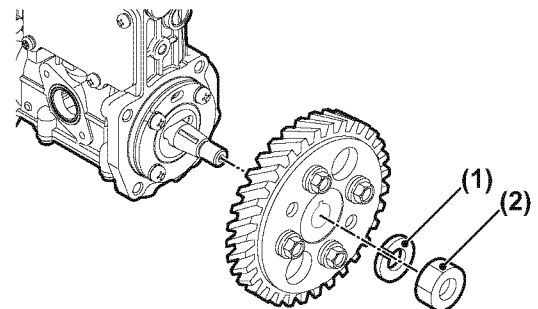

Figure 7-14
18. Once the fuel injection pump drive gear and hub assembly have “popped” loose from the tapered fuel injection pump drive shaft, carefully remove the drive gear nut (Figure 7-14, (2)) and lock washer (Figure 7-14, (1)).